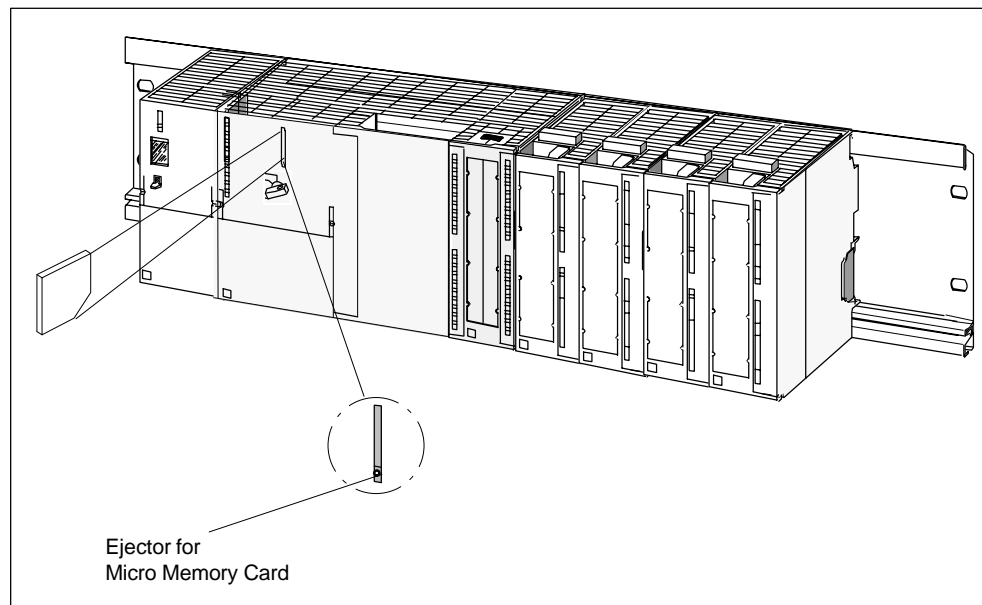

Fig. 8-1 Insert the Micro Memory Card into the C230-2
3. Insert the ("new") Micro Memory Card with a slight pressure in the C230-2 module slot until it latches. Take care that the sloping corner of the Micro Memory Card is pointing towards the ejector (see Fig. 8-1).